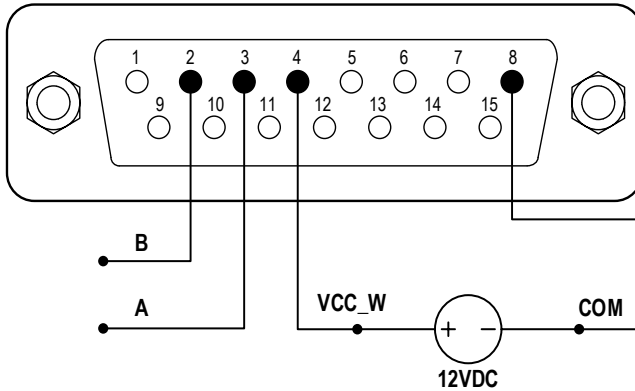
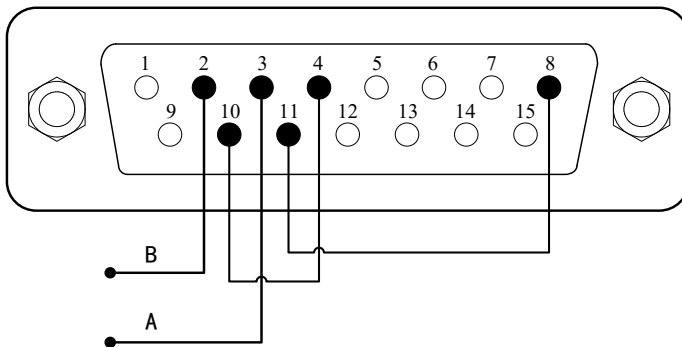

Figure 17. RS485 MODBUS Wiring with External 12V Power Source
Figure 18. RS485 MODBUS Wiring with Internal 12V Power Source
- 1) When the power is off, wire the DB15 connector as shown on Figure 17 or Figure 18 and connect it to the DB15 port on the rear of the pump. External DC power source is recommended to avoid electrical interference.